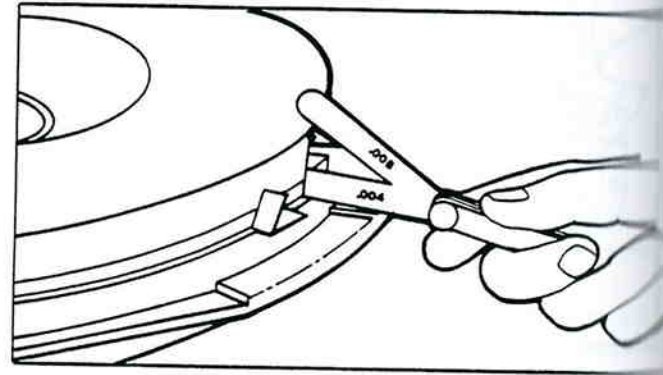

Figure 5-24. Check Driving Lug Clearance.
11. Place pressure plate (B-1) in drive slots on flywheel ring. Check clearance between driving lugs on pressure plate and drive slots in flywheel ring (C-1). Clearance should be .004" to .008" (.102- .203 mm) (figure 5-24).